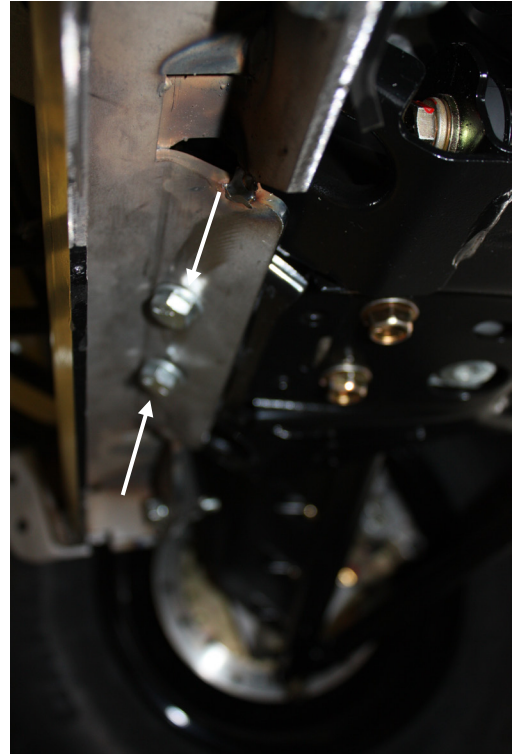

Figure 4
- Place the plow mount assembly (A1) into position and install lower fasteners (B1, B2, B3) as shown in figure 4. Do not tighten fasteners at this time.